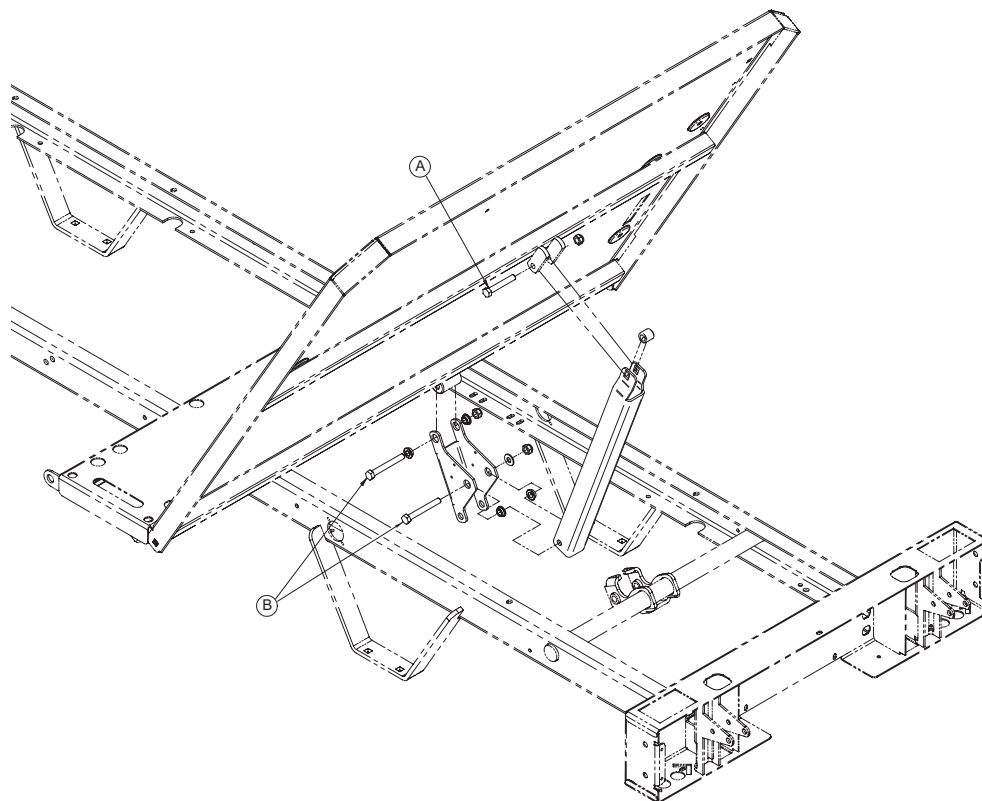

Figure 4.3 B
- Unless otherwise indicated, refer to Figure 4.3 A on pg. 37 for the following replacement procedure.
6. Using the #2 Phillips screwdriver, remove the two lateral mattress retainers (I) and keep them for the replacement head section.